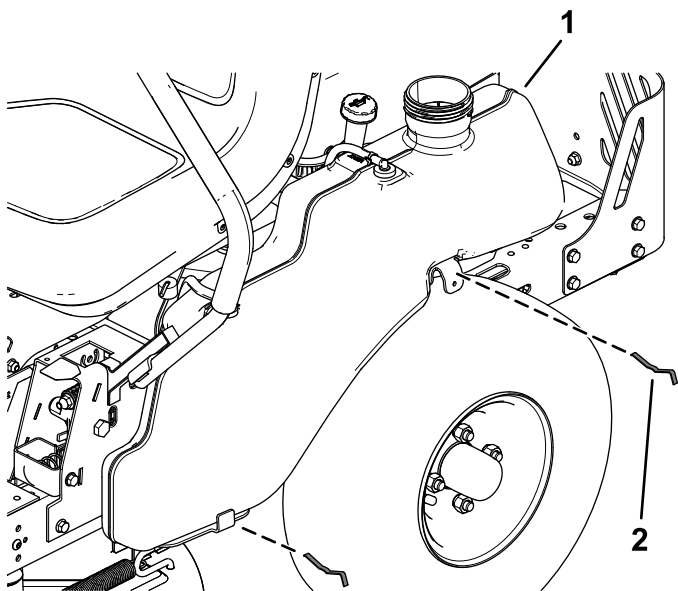

Figure 3
2. Remove the 2 fuel-tank clips from the underside of the fuel tank and rotate the fuel tank to the side (Figure 3).
7. Rotate the fuel tank back into position and secure it using the previously removed fuel-tank clips (Figure 3).